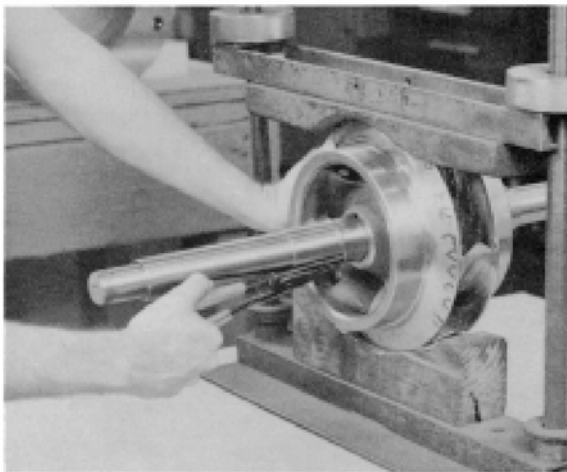

FIGURE 32 – REMOVING IMPELLER FROM RETAINING RINGS
12. Remove the impeller retaining ring (3-915-1) with a retaining ring pliers (Figure 32). Heat the impeller hub on both ends to 350°F maximum, and pull or push the impeller from the shaft. (Instead of heating impeller, you may press impeller off of shaft, if a press is available).